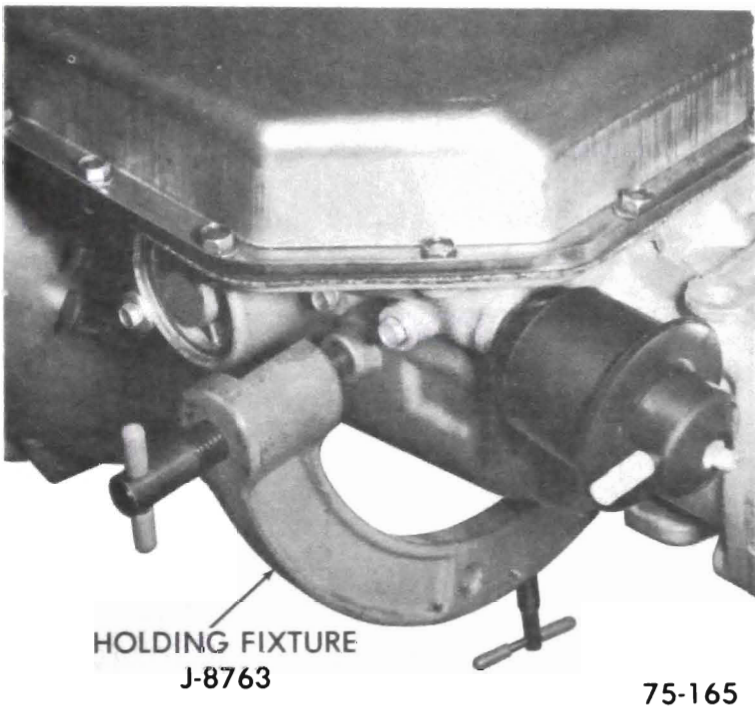

Figure 75-68
2. Place transmission on a CLEAN work bench and use CLEAN tools during disassembly. Provide clean storage space for parts and units removed from transmission. An excellent working arrangement is provided by assembling the transmission to Holding Fixture J-8763. See Figure 75-68.
Before assembling transmission in Holding Fixture J-8763 it must be modified so 1-2 accumulator will clear fixture. Remove 3/8" from Fixture as shown in Figure 75-68.
1. Assemble transmission in Fixture J-8763. Do not overtighten. See Figure 75-68.